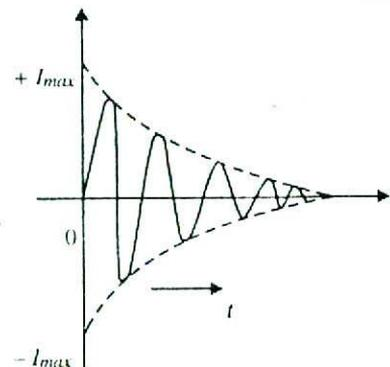

Fig. 16.3
**Waveform.** If there were no losses in the tank circuit to consume the energy, the interchange of energy between  $L$  and  $C$  would continue indefinitely. In a practical tank circuit, there are resistive and radiation losses in the coil and dielectric losses in the capacitor. During each cycle, a small part of the originally imparted energy is used up to overcome these losses. The result is that the amplitude of oscillating current decreases gradually and eventually it becomes zero when all the energy is consumed as losses. Therefore, the tank circuit by itself will produce *damped oscillations* as shown in Fig. 16.3.